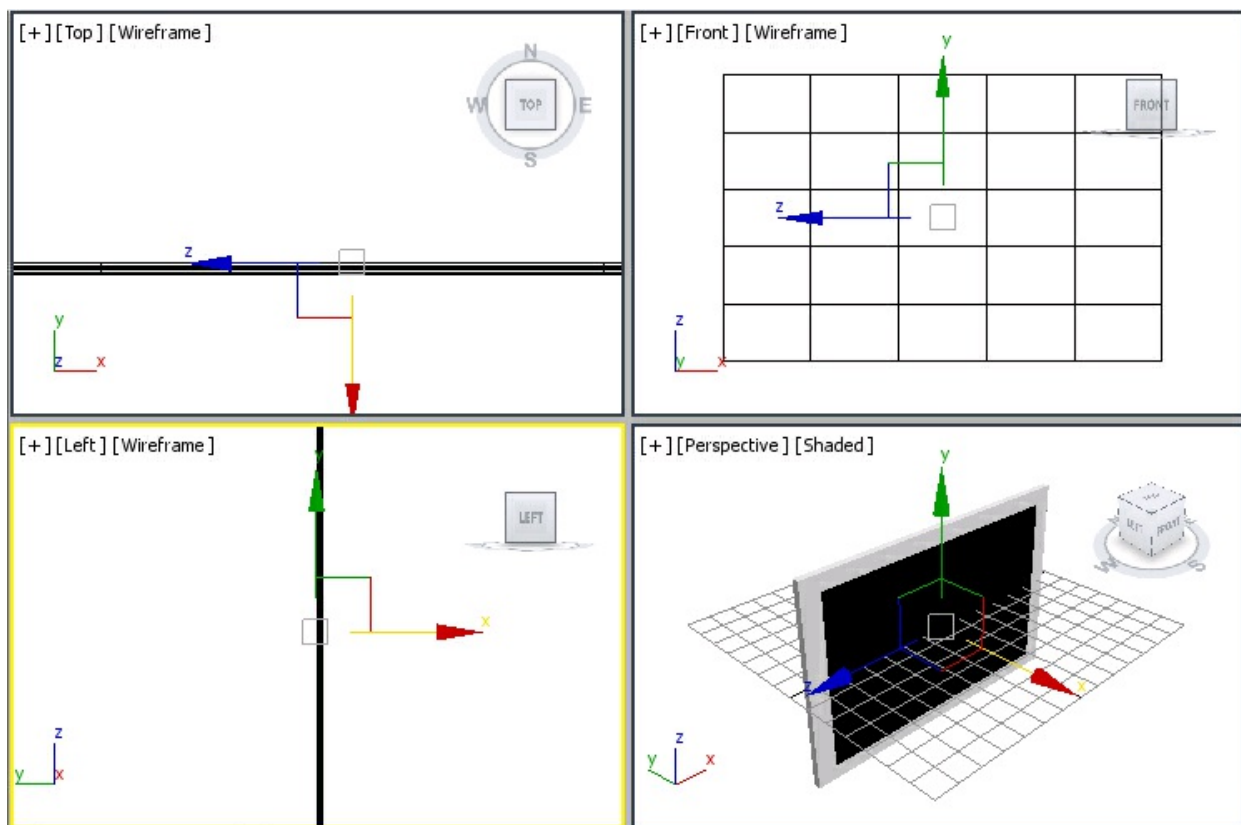

Figure 8-129 The screen geometry in the viewports
20. In the **Name and Color** rollout, enter **screen**; the box is named as *screen*. Change the color of *screen* to black. Figure 8-129 shows *screen* in the viewports.